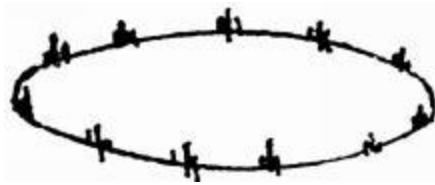

Fig. 16
(12) Motor interference (Figure 16), waveform characteristics: discharge waveform is uniformly announced along the elliptic baseline, and each single group number is in the shape of "hill".